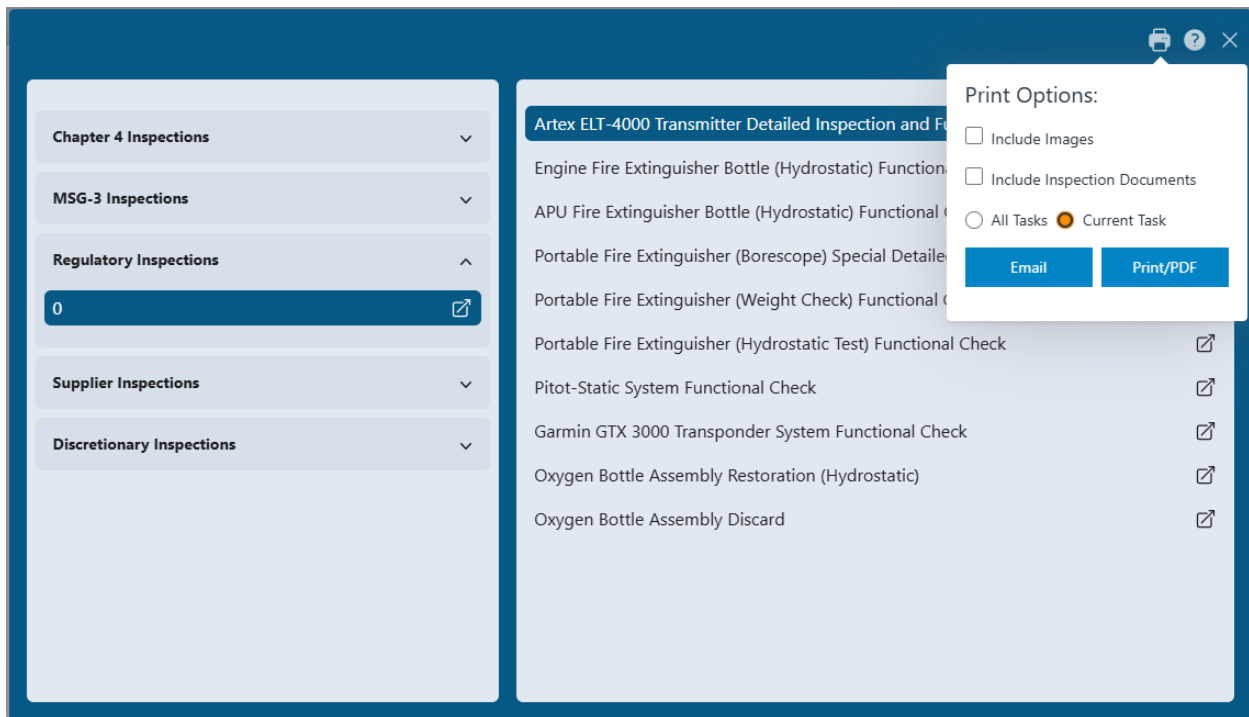

Figure 15 - Tasks Window and Available Print Task Functions.
3. This will open the Tasks Window that allows a user to easily navigate inspections and print task packages for your subscribed library (Refer to Figure 15).